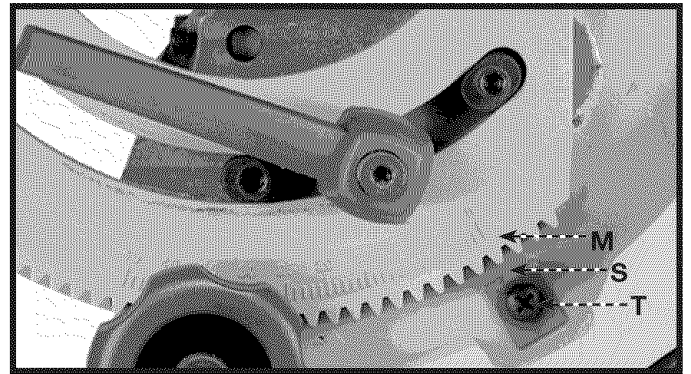

Fig. 16
- Loosen the screw (T) Fig. 16 and align pointer (S) with "0" mark on the trunnion scale (M). Tighten securely.